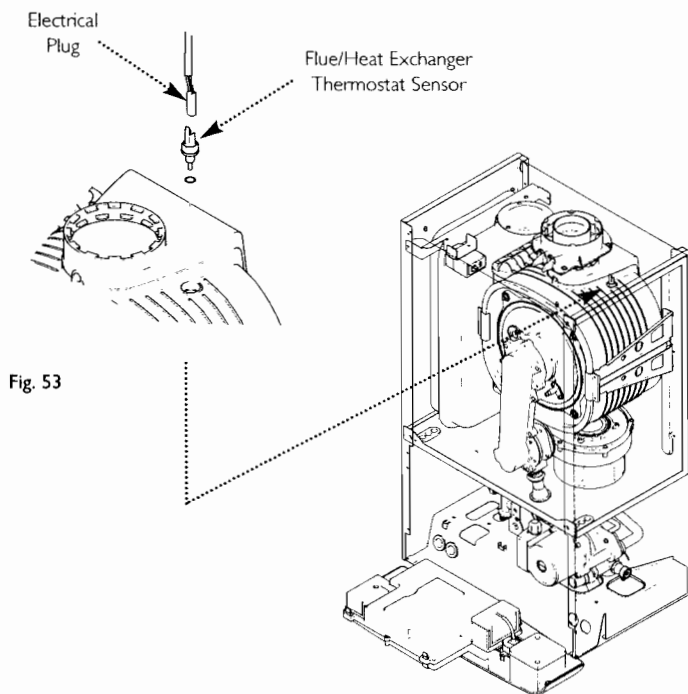

Fig. 53
12.8 Flue/Heat Exchanger Thermostat Sensor (Fig. 53)